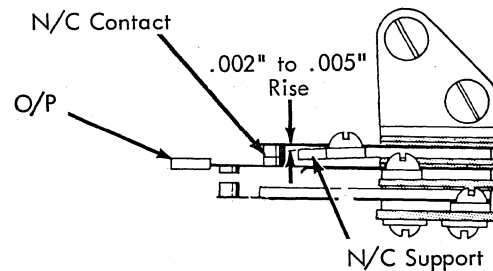

FIGURE 5-6. Carrier Return Interlock Inactive
- Form the N/C support so that the O/P lifts the N/C contact .002" to .005" (Figure 5-6).